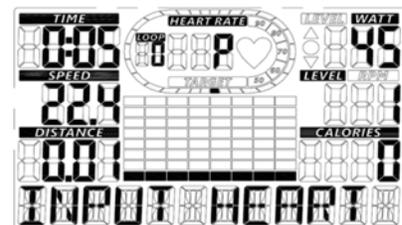

Fig. 40
- H.R.C mode is for workout mode with. H. R. input. If there is no H.R. input, LCD will show message "INPUT HEART" to remind the user to input H. R. signal (Fig. 40).